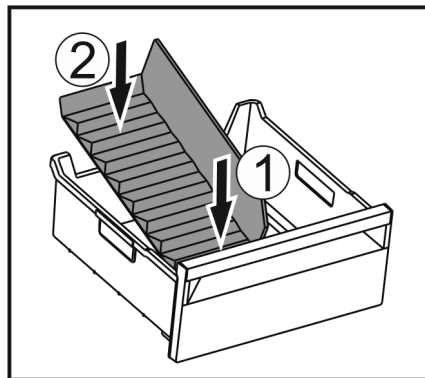

Fig. 233
- ▶ Insert the front part of the ice compartment divider. Fig. 233 (1)
- ▶ Lower the rear part of the ice compartment divider to the drawer bottom. Fig. 233 (2)